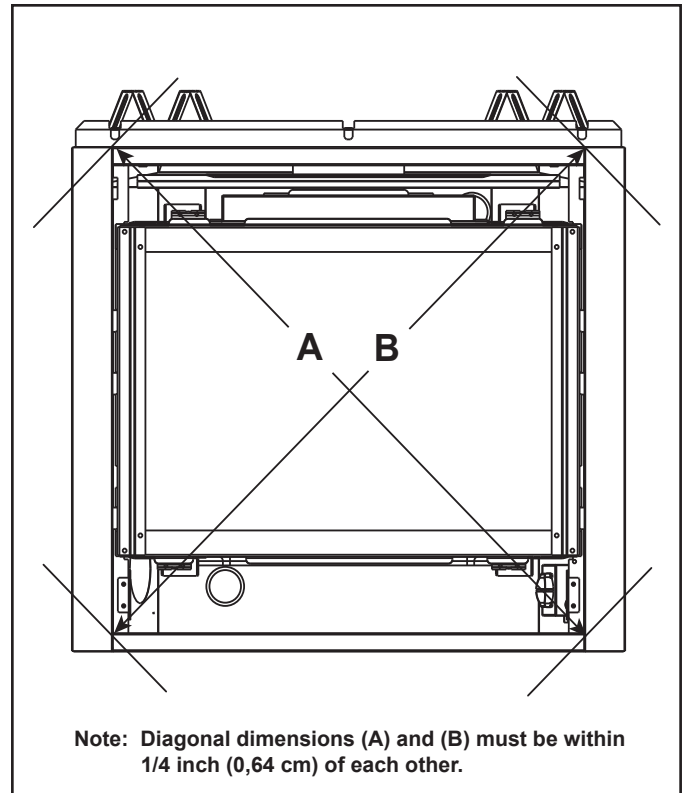

Figure 9.4 Positioning the Appliance Squarely
- “Square” the unit by securing diagonal dimensions to within 1/4 inch (0,64 cm) of each other. See Figure 9.4.